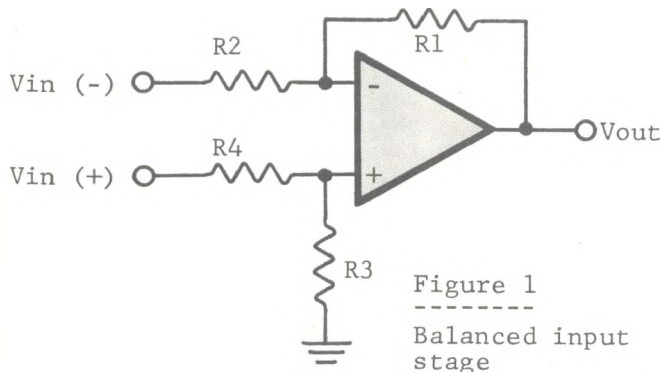

Figure 1
**Transformerless balanced inputs.** Heading the list of transformerless balanced inputs is the single op amp difference amplifier of figure 1. From
Back to figure 1. If  $R1 = R3$  and  $R2 = R4$ , then the circuit amplifies the difference between the inputs by the factor  $R1/R2$ , i.e.,